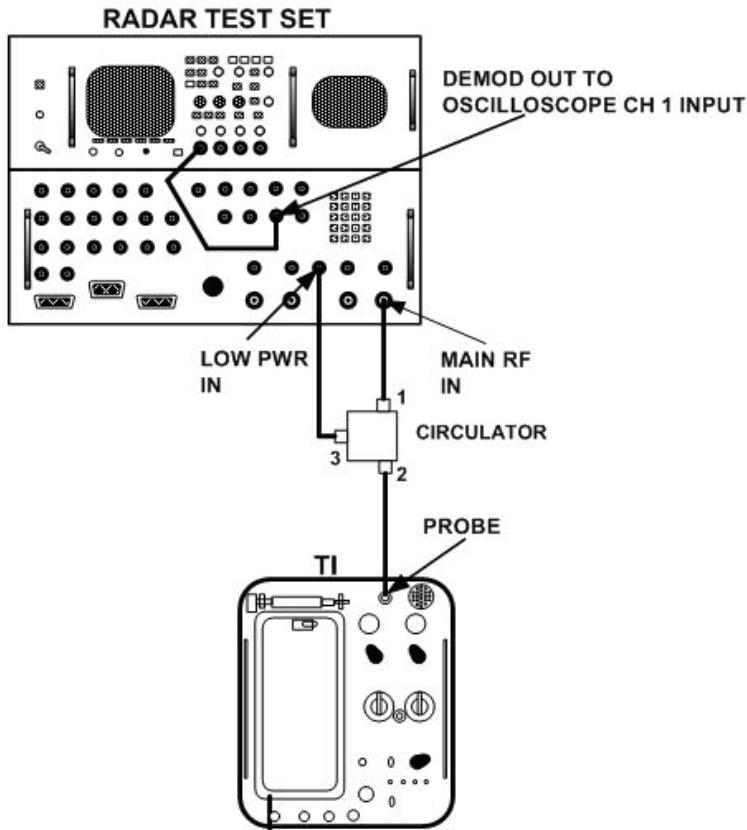

Figure 1. Preliminary equipment setup.
- b. Set switches as listed in (1) through (5) below:
- (1) **FUNCTION** switch to **SELF-TEST**.
- (2) **MODE** switch to **1**.
- (3) **REFERENCE CODE** switches to **7777**.
- (4) **ISLS** switch to **OFF**.
- (5) **MODE 4** switches to **DOWN** position.
- g. Connect equipment as shown in figure 1.
- h. Set radar test set (RTS) **INTERROGATOR Menus** as listed in (1) through (6) below. For the remainder of this procedure these settings will be identified as the INITIAL RTS settings.
- (1) **Menu 2 – M1** through **MC** to **OFF**.
- (2) **Menu 3 – REPLY SIGNAL** to **SIF**, **M2** through **MC** to **7777** and **ON**, **RANGE DELAY** to **0 μs**, **CHAL SOURCE** to **UUT**, **F2:** to **ON**, and **SIF2** to **OFF**.
- (3) **Menu 10 – MAIN FREQ** to **1090 MHZ** and **ON**.
- (4) **Menu 11 – MODULATION** and **1ST REPLY** to **ON**, all other settings to **OFF**.
- (5) **Menu 14 – PRF** to **267PPS** and **O TRIGGER** to **INTERNAL**.
- (6) **Menu 16 – SOURCE** to **LOW PWR**, and **RF** to **0**.